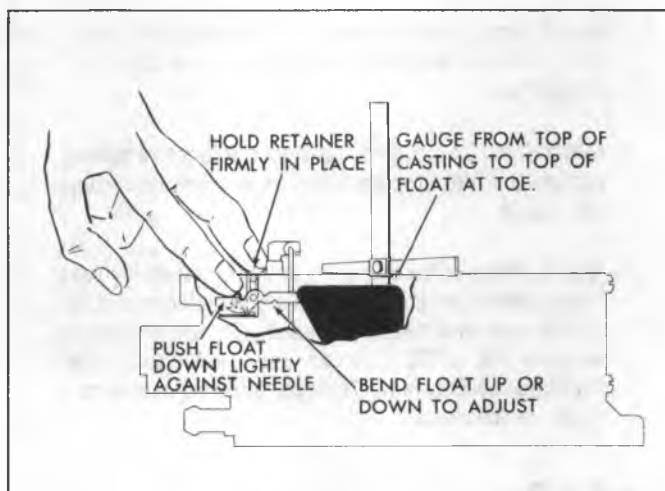

Fig. Q6--Float Level Adjustment
13. **Float level adjustment (fig. Q6).**